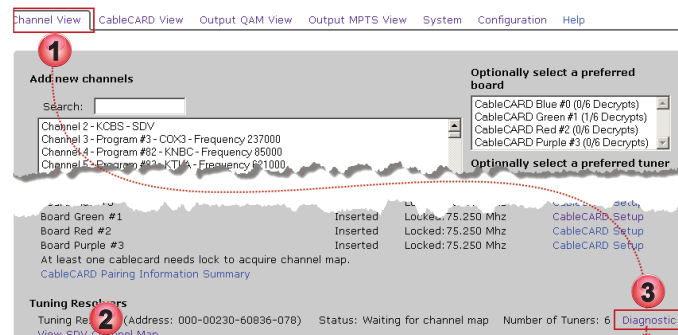

Figure 13-3: Access Tuning Resolver Diagnostic Page
1. Click the **Channel View** tab if it isn't already selected, Figure 13-3.